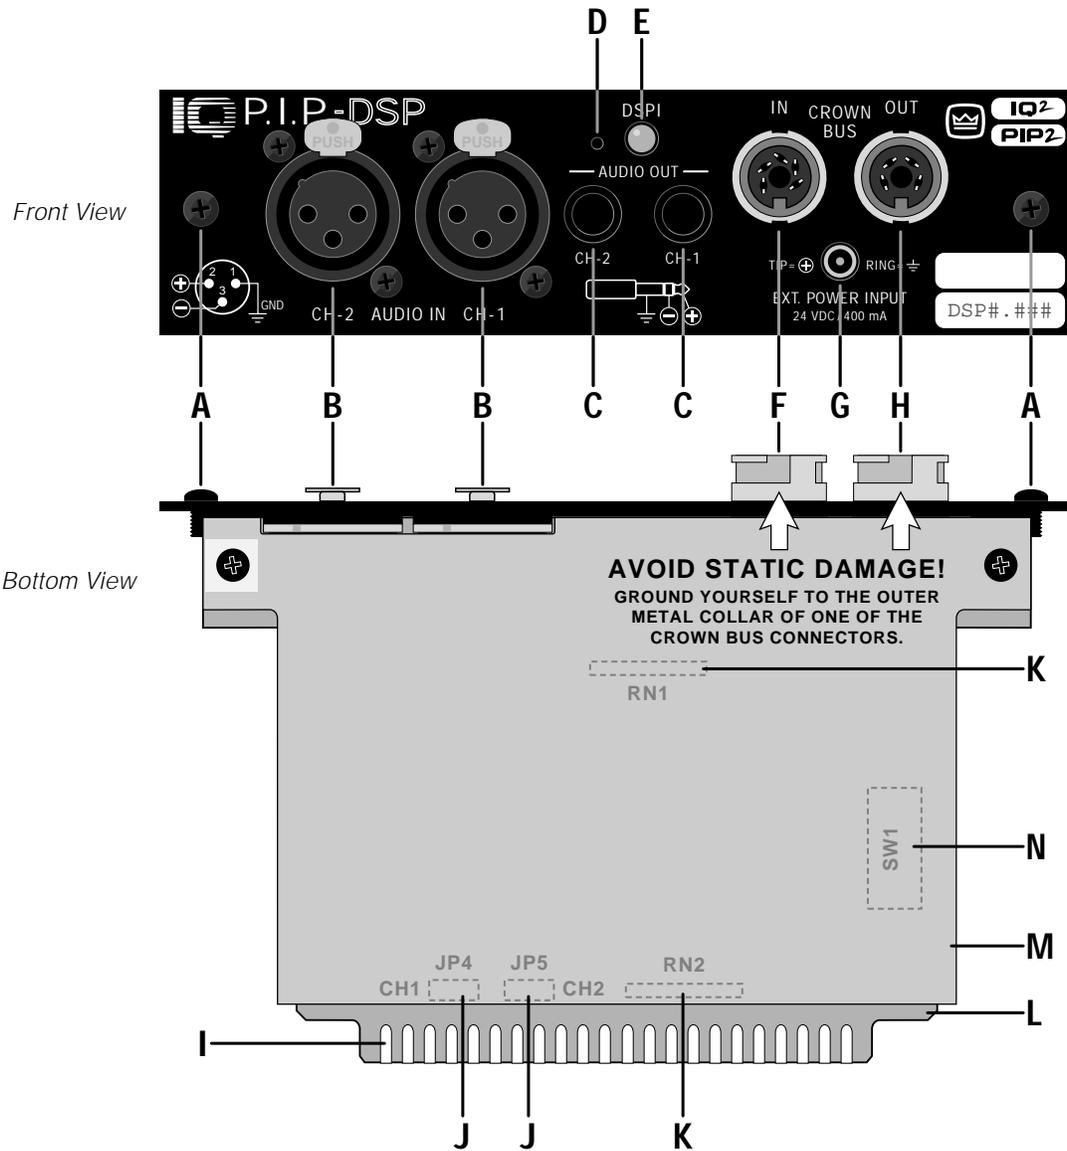

Fig. 2.1 The IQ-P.I.P.-DSP Facilities
2. Set jumpers JP4 and JP5. Set both jumper JP4 and JP5 to the "OUT" position if either a *PIP2*-compatible or *Macro-Tech 5000VZ* amplifier will be used (Figures 2.1 and 4.7). Both JP4 and JP5 should be set to the "IN" position for all other amplifiers.
CAUTION: STATIC ELECTRICITY MAY DAMAGE THE IQ-P.I.P.-DSP MODULE. Use caution when handling the unit. Carefully ground yourself BEFORE touching the IQ-P.I.P.-DSP module. For added safety, touch the outer metal collar of either Crown Bus connector (see Figure 2.1). This should safely discharge any static electricity through the ground plane of the module. Avoid unnecessarily touching the components, edge connector or solder pads on the circuit boards.
2. **Set the jumpers JP4 and JP5.** If the IQ-P.I.P.-DSP is being installed into a PIP2-compatible or Macro-Tech 5000VZ amplifier, move both jumper JP4 and JP5 on the IQ circuit board to the "OUT" position (Figures 2.1 and 3.6). Set both JP4 and JP5 to the "IN" position for all other amplifiers.